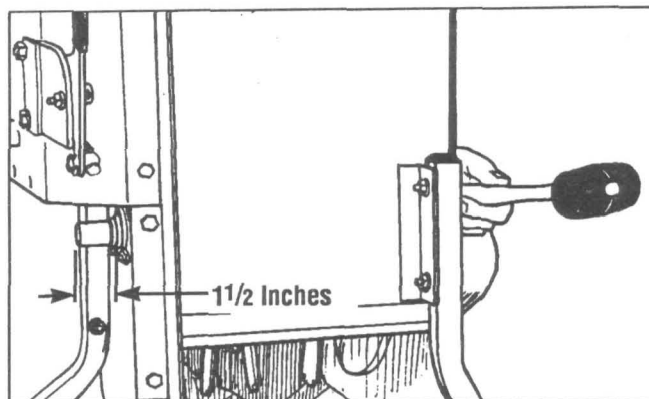

Fig. 17
D. Using a soft mallet, tap the shaft through the tube and out through the bearing on the engine side of the main frame. Stop when the end of the shaft extends approximately 1 1/2" past the bearing shoulder (see Fig. 17).